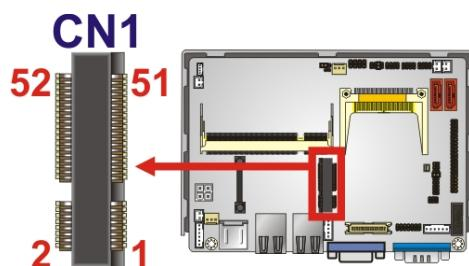

Figure 3-12: PCIe Mini Card Slot Location
**CN Location:** See Figure 3-12